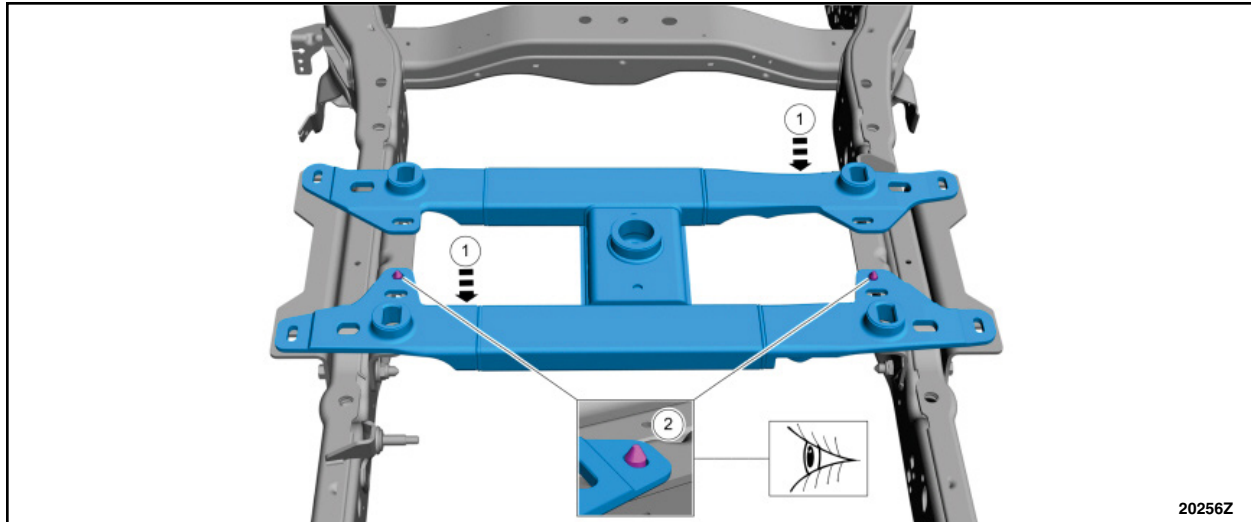

FIGURE 29
40. Install the hitch assembly. See Figure 29.